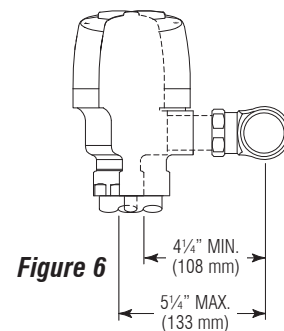

Figure 6
Step 4 — Install Flushometer (Figures 6 and 7)
SLOAN ADJUSTABLE TAILPIECE (Figure 6)